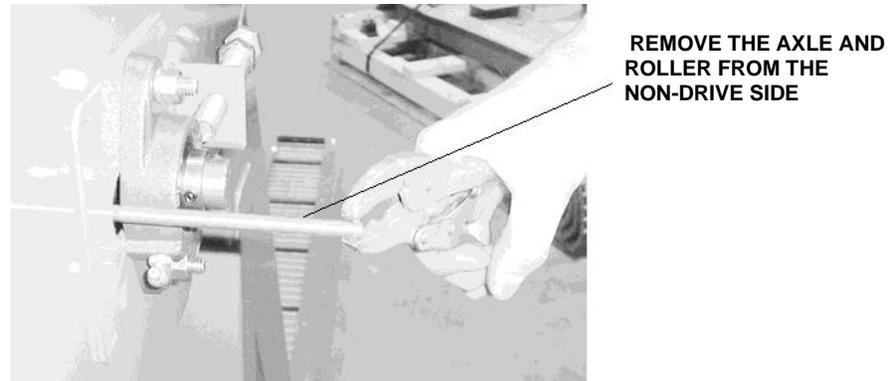

Figure 15: Removing the axle on a metal belt conveyor
9. Remove the axle from the non-drive side as shown in Figure 15. Install the axle and roller back into the top half of the metal belt to avoid loosing the axle, pin, side wings and roller.
10. Remove the axle from the non-drive side as shown in Figure 15. Install the axle and pins, and rollers back into the top half of the metal belt to avoid losing the parts.